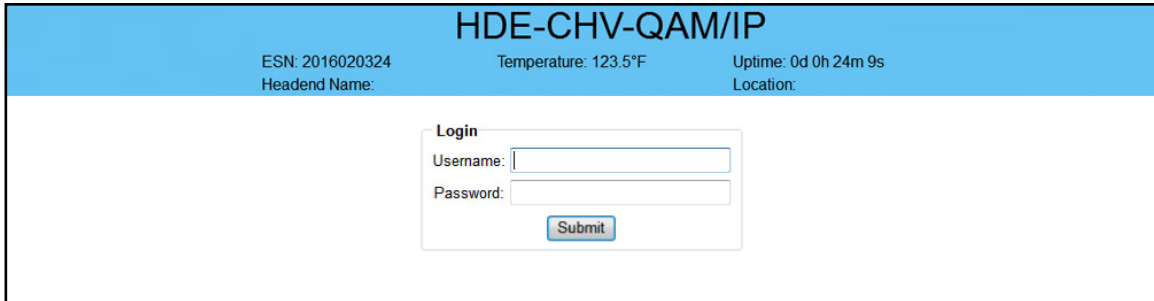

Figure 5.1 - "Login" Screen
1) Open a web browser on your computer (Internet Explorer 7 or higher is recommended) and enter the following URL address (<http://172.16.70.1>). The "Login" Screen (Figure 5.1) will appear.